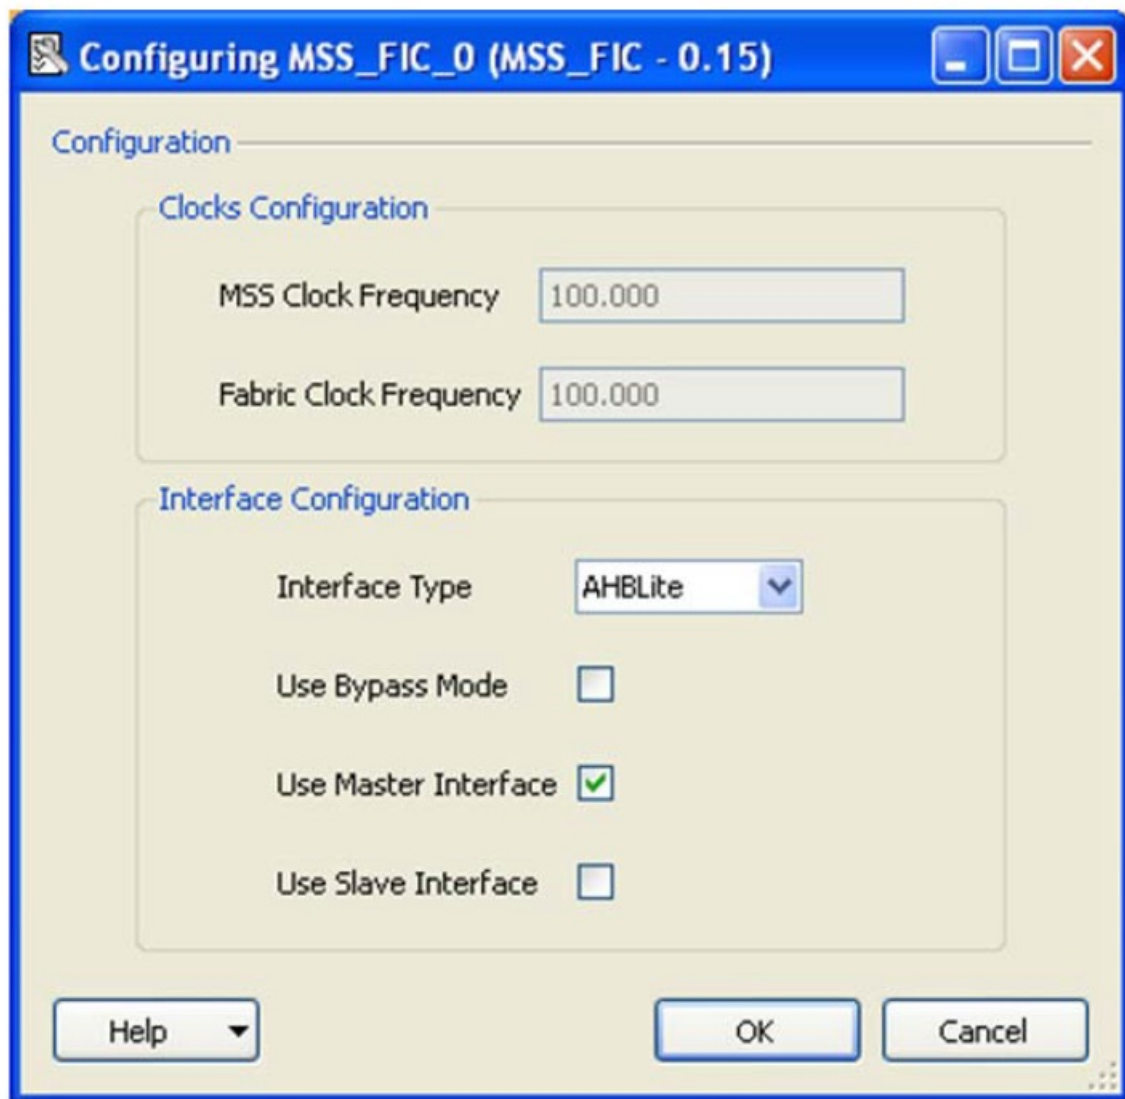

Figure 1-2 · AHBLite Interface Selected
Select the AHBLite Interface. Type in the MSS Fabric Interface Configurator as shown in Figure 1-2.
- Enable the AHBLite Master Bus Interface (BIF) as shown in Figure 1-2.